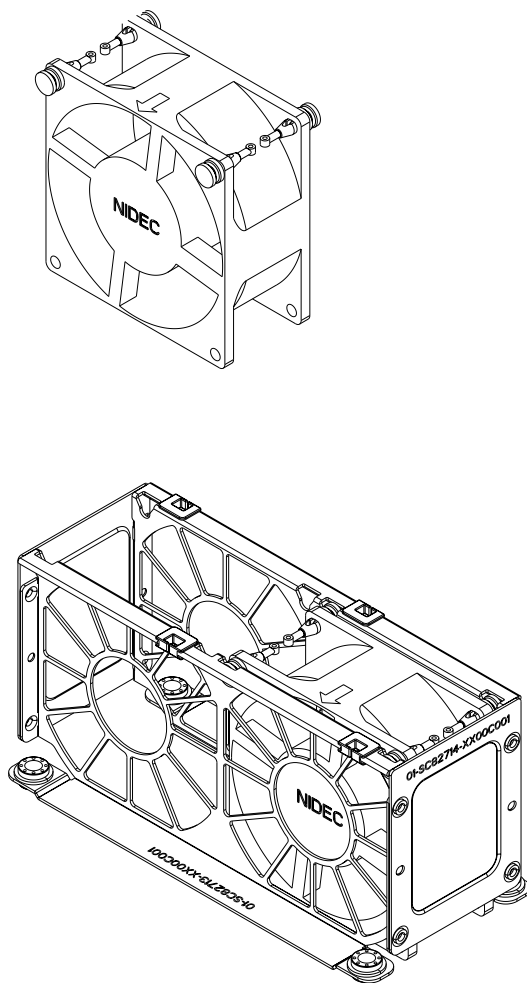

Figure 6-2 Fan Replacement Example
4. Pull the fan housing up and out of the system chassis, see Figure 6-2 on page 49.